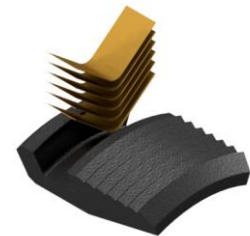

Fig 3
**NOTE5:** Install six (6 ea) springs per slip (Fig. 3).